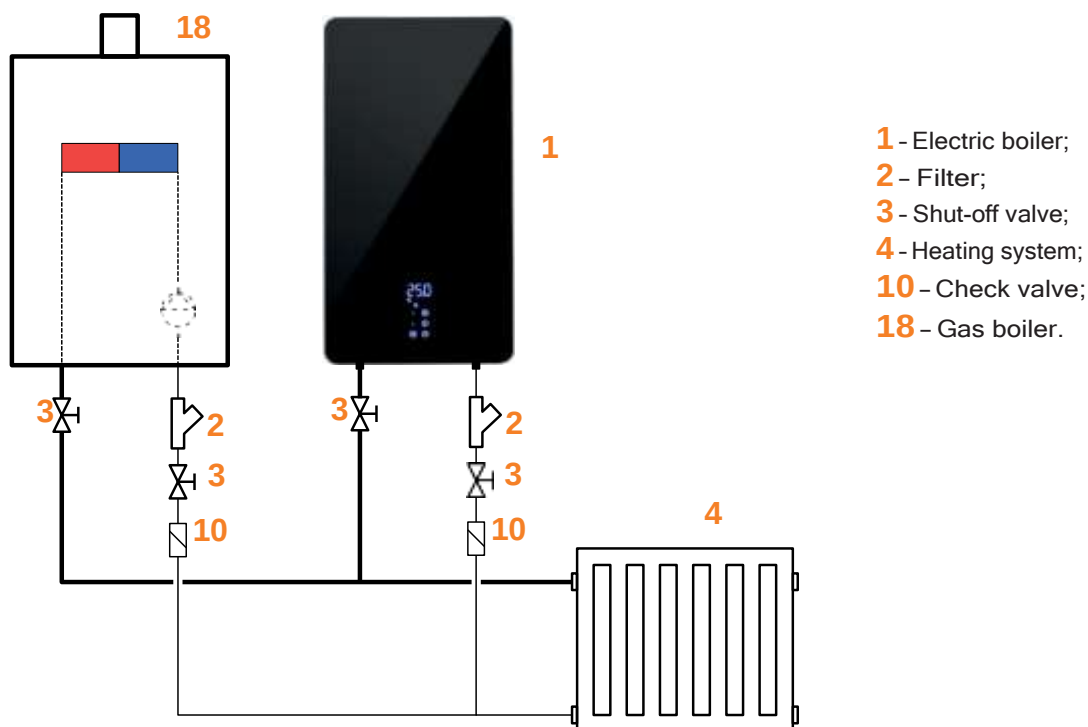

Figure 25 - Wiring diagram of gas and electric boilers.
5.8.1 When connecting an ESPRO electric boiler with other heat sources (see Figure 25 - 26), the electric boiler is used as a backup heat source, for example, it can operate at night at a reduced rate of electricity tariff (if the consumer has multi-tariff metering) .